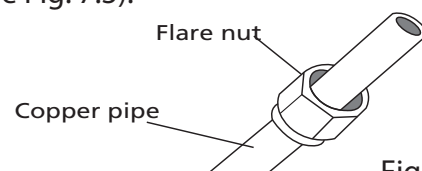

Fig. 7.3
3. Place flare nuts on both ends of the pipe. Make sure they are facing in the right direction because you can't put them on or change their direction after flaring (see Fig. 7.3).